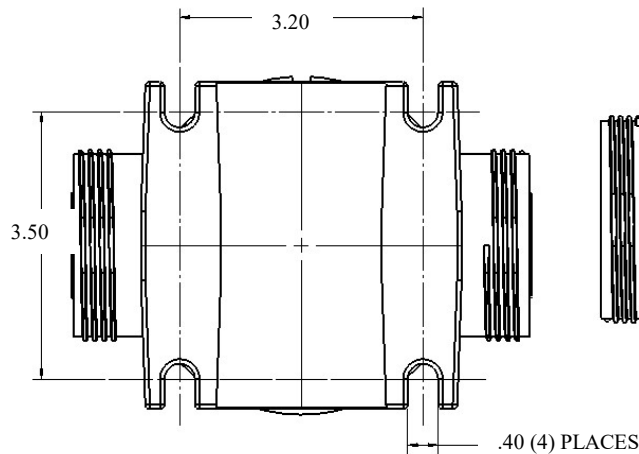

Fig. 1: SB-Series base mounting pad (bottom view) – 1/2" thru 1".
1.3.1.4.3.2. Flange bolts should be tight enough to compress the gasket and make a good seal, without distorting or putting excessive stress on the flanges. Suitable washers should be used between the bolt head and flange and the nut and flange. Bolts should be tightened in alternating sequence (Figure 1). See Table 1 for recommended torque.